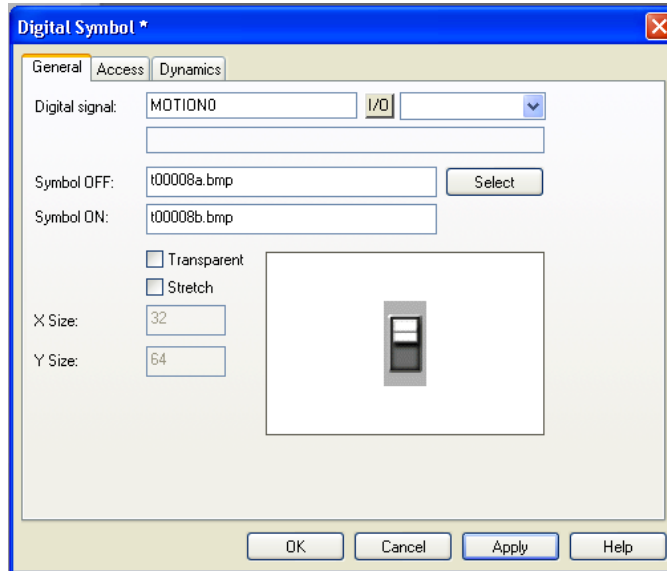

Figure 7: Correct settings for switch
- In the “General” Tab, type “MOTION0” in the “Digital signal” box. This will send the equivalent Galil DMC commands “BGX” (Begin) and “STX” (Stop) each time the switch is toggled. Don’t forget to allow the user to change this switch by going to the “Access” tab and selecting “Enable user input.” These settings are shown in Figure 7.